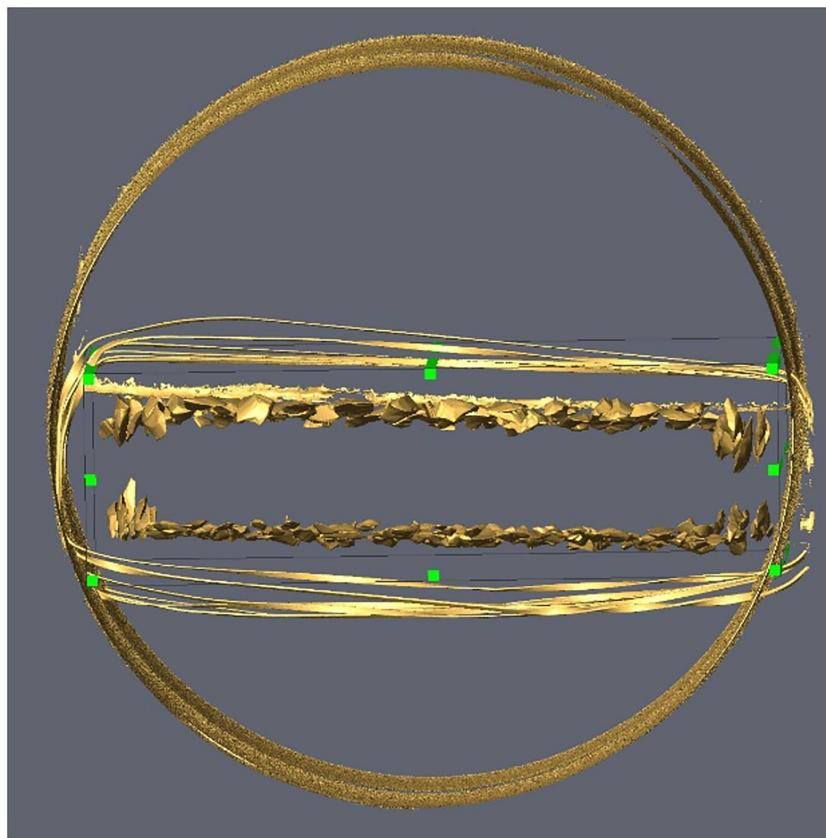

Fig. 16: Adjusted bounding box used to crop the outlying materials.
- 22.6 15). If possible, leave only the lithic artefacts within the bounding box (Fig. 16). Any remaining materials can still be excluded later if necessary. Switch between 'Cursor' and 'Hand' (i.e., dragging) mode and change the position of the 3D model to adjust bounding box in all dimensions to crop out as much of the outlying material as possible.